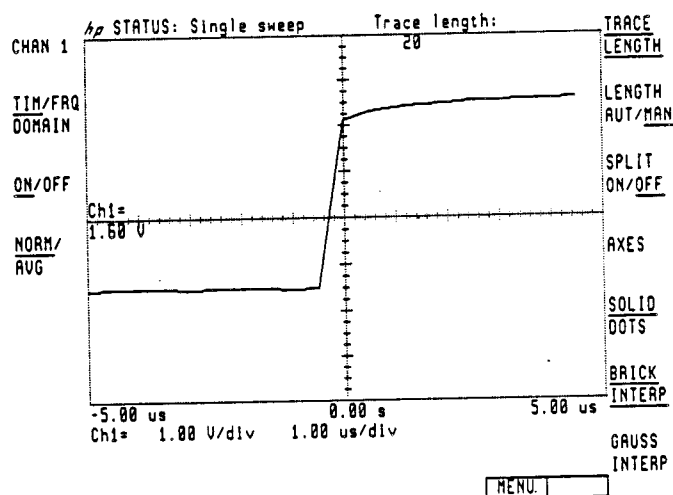

Figure 4-7. Sync Output
4. The displayed pulse should originate near the center graticule. See Figure 4-7. Verify that the "high" and "low" voltages meet the standard TTL requirements; that is, the high should be $\geq 2.4V$ and the low should be $\leq 0.4V$. (Note that this is a functional check only.)